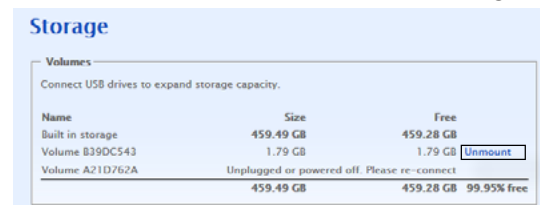

Figure 47
2. If when the external drive is to be removed from the MS500, select “Unmount”. Refer to figure 47.